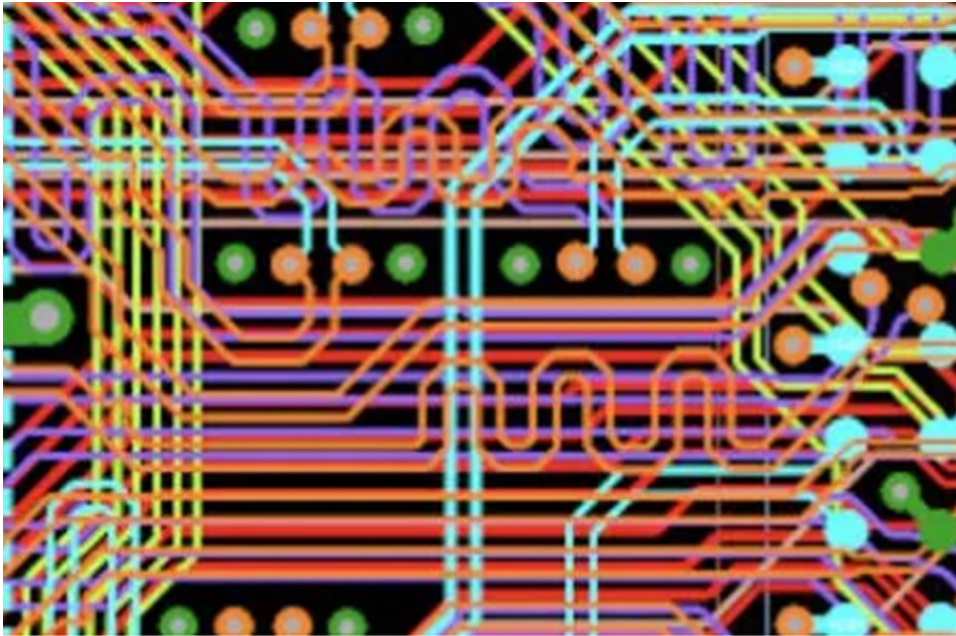

Figure 11. An example of multiple high-speed lanes routed on several inner layers, some of which are part of the same bus.
- Be generous with ground planes in designs featuring several layers. Each digital interface may require its own designated innerlayer with ground planes above and below to shield from EMI as well as provide minimized ground loops and clean return paths. Try to keep all byte lanes on the same layer if possible, but if needed, then alternate the byte lanes across two different layers. **Figure 11** shows several layers containing high-speed signals. Some layers are paired with others and are part of the same bus, such as orange and purple.